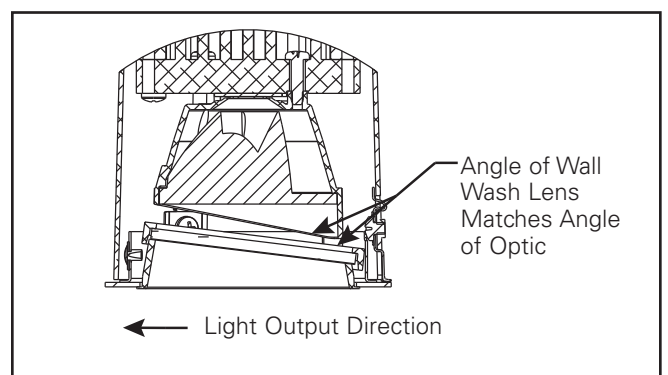

Figure 9
2. For proper wall wash trim installation, (see Figure 9).